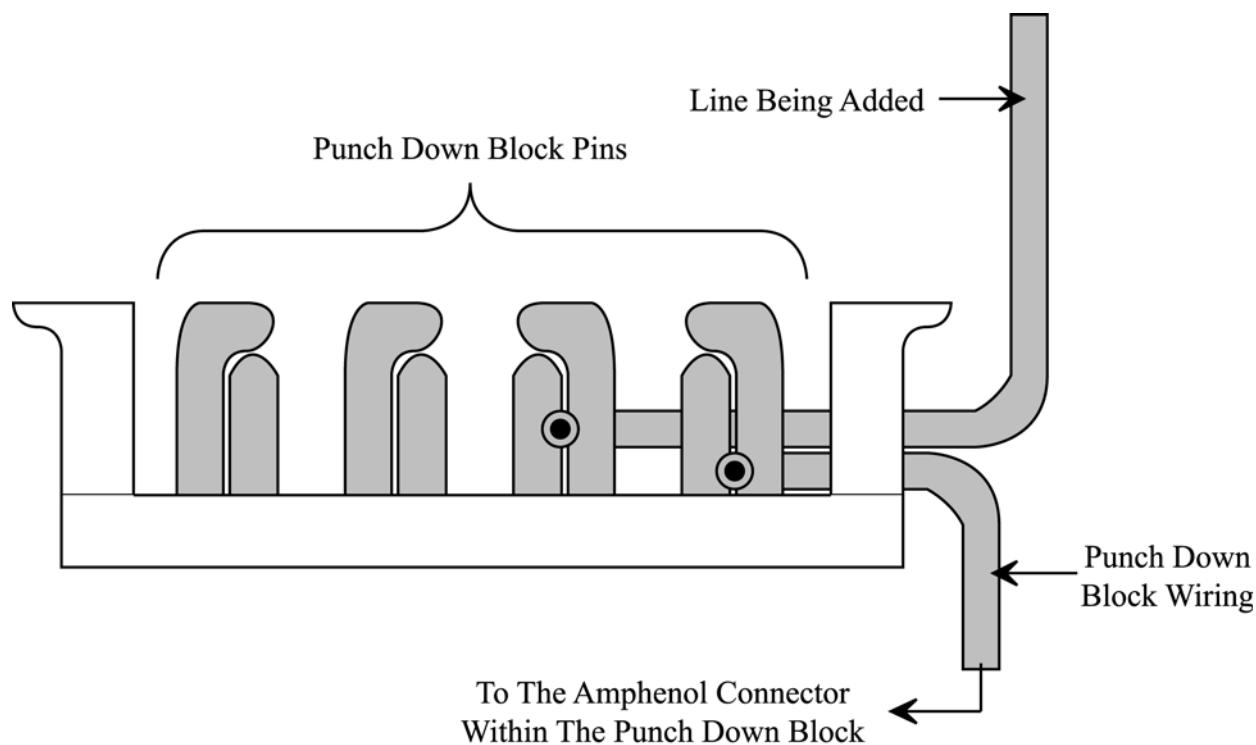

Figure 9: Inserting the Punch Down Block
- Connect the incoming TIP line (from the telephone company) to the appropriate split-pin connector on the RJ-71C punch down block (see Table 3 on page 13 and Figure 9 on page 15).
- Connect the incoming RNG line (from the telephone company) to the appropriate split-pin connector on the RJ-71C punch down block (paired with the incoming TIP line – see Table 3 on page 13 and Figure 9 on page 15).
- Connect the outgoing TIP line (to the house telephone) to the appropriate split-pin connector on the RJ-71C punch down block (see Table 4 on page 14 and Figure 9 on page 15).
- Connect the outgoing RNG line (to the house telephone) to the appropriate split-pin connector on the RJ-71C punch down block (paired with the outgoing TIP line – see Table 4 on page 14 and Figure 9 on page 15).